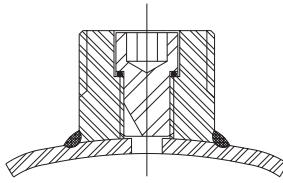
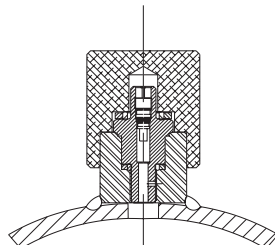
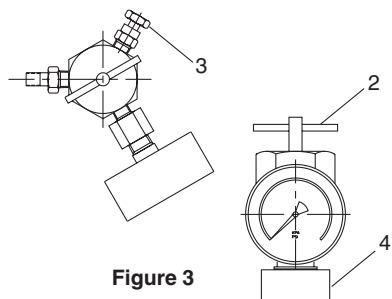

Figure 5
Figure 6
Figure 3
Make sure nitrogen supply is shut off. Attach hose to nitrogen bottle. If accumulator has a gas valve as shown in Figure 5 follow steps A through K. If accumulator has a gas valve as shown in Figure 6, skip steps A through J and follow steps AA through JJ. Before starting, lubricate the shell and bladder by placing a small amount of system fluid in the oil port and rotate the accumulator a few times.
Accumulator having gas valve as per Figure 5.
For diaphragm units having a gas valve configured like Figure 5
- Refer to Figure 3. Turn the charging device "T" handle (2) all the way in (clockwise) attach charging and gauging head assembly by screwing mounting nut (4) to the gas end of the Diaphragm accumulator.
- Close bleed valve (3).
- Turn "T" handle (2) in counterclockwise motion until rotation stops.
- When finished checking the precharge, turn "T" handle (2) clockwise all the way, then open bleed valve (3) to bleed all residual pressure from the charging device.
- Hold "T" handle (2) to keep from turning, loosen nut (4), remove the assembly from the accumulator.
For accumulators having gas valve as shown in Figure 5, attach gauging assembly as shown in Figure 3 following Steps A through D. Then, open bleed valve (3) until all gas pre-charge is relieved from accumulator. Then remove gauging assembly. The accumulator is now safe to remove from the system.